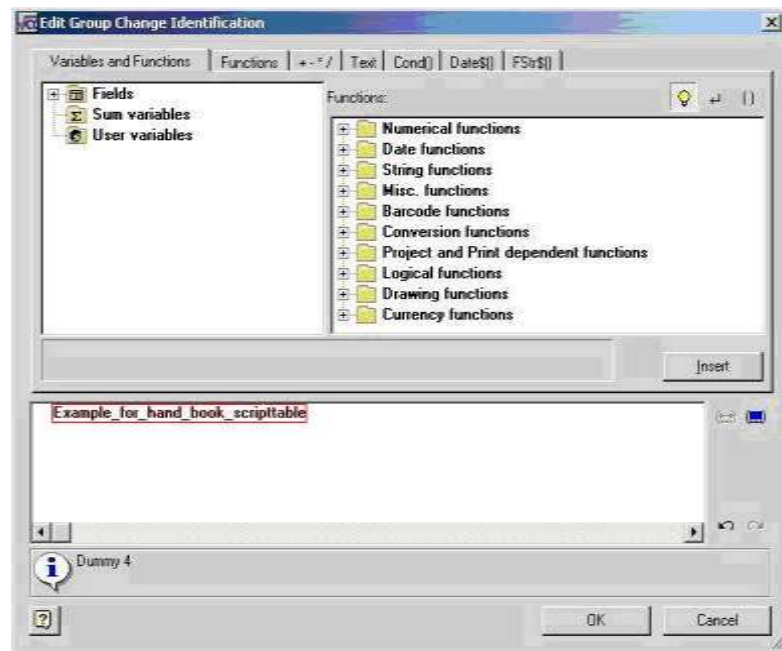

Figure 74: String Function with Assigned Script Variable
- 6) Under the **Functions** tab, select the string function to which the script variable for the change requirement is assigned. The string function with the assigned script variable is shown in the dialog. *Please refer to the Figure 74.*